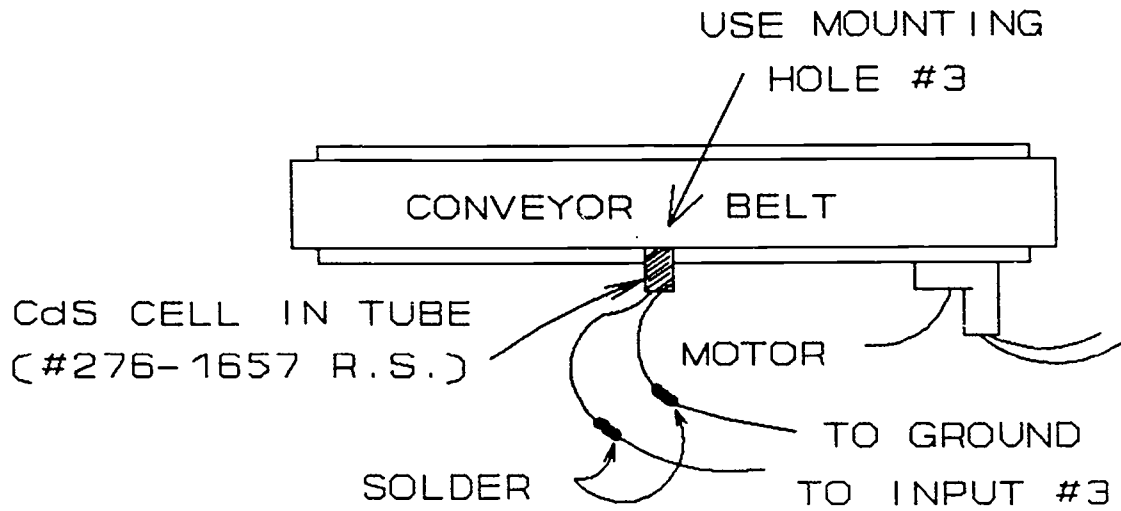

Figure G-12-5
3. Connect the CdS cell as shown in Figure G-12-5 ("Conveyor/CdS Cell Location").